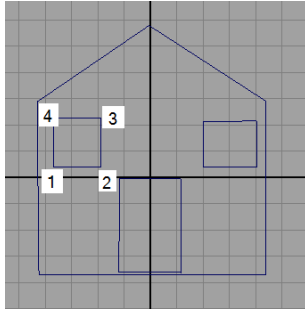

*Figure 3-102 Profile curves for creating a house*
2. Create the profile curve for house by using **EP Curve Tool**, as shown in Figure 3-102. Make sure the start point and the endpoint of the NURBS curve are snapped to each other. To do so, press and hold the `v` key while connecting the endpoint to the start point. Alternatively, choose the **Snap to points** tool from the Status Line.